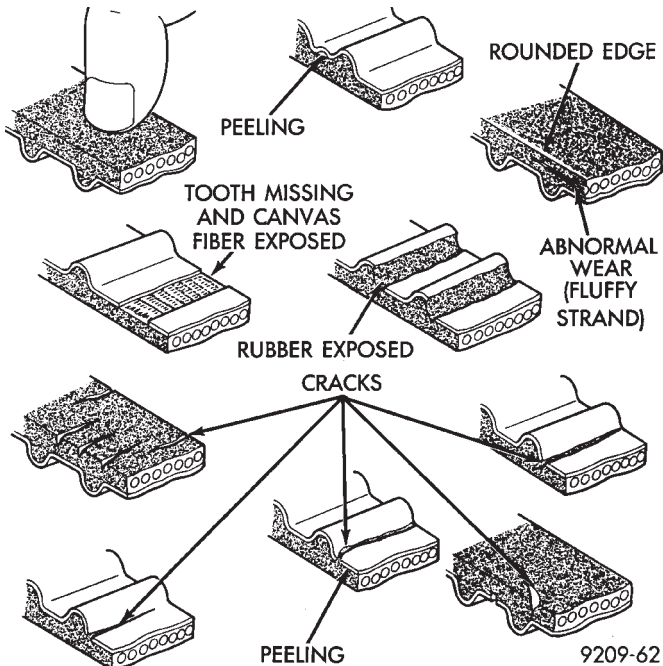

Fig. 105 Timing Belt Inspection
- Abnormal wear of belt sides. The sides are normal if they are sharp as if cut by a knife (Fig. 105).
- (3) If none of the above conditions are seen on the belt, the belt cover can be reinstalled.